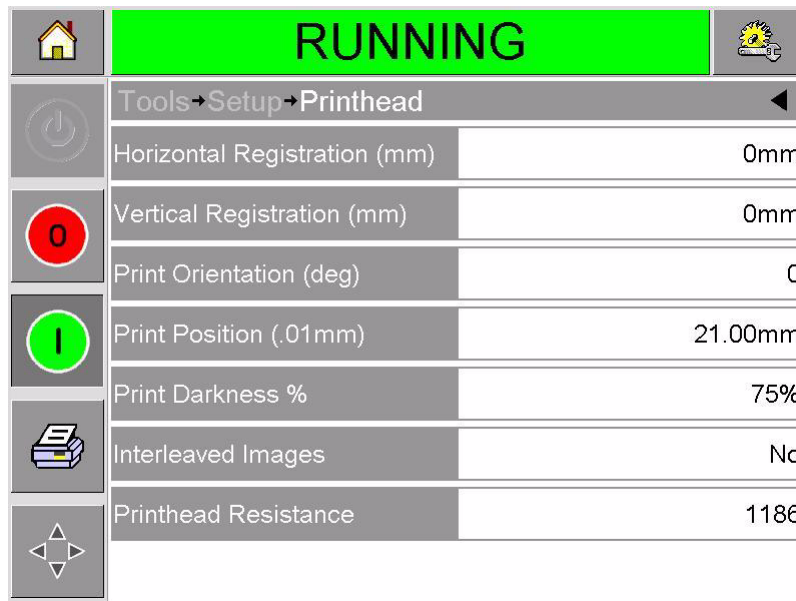

Figure 4-13: Printhead Setup Page for Continuous Motion Applications
Figure 4-13 on page 4-15 shows the printhead setup page for printers that have been installed to work on a continuous motion packaging machine (prints while the target material is moving).
- 3 Touch the Printhead button to open the printhead setup page (Figure 4-12 on page 4-14 and Figure 4-13).